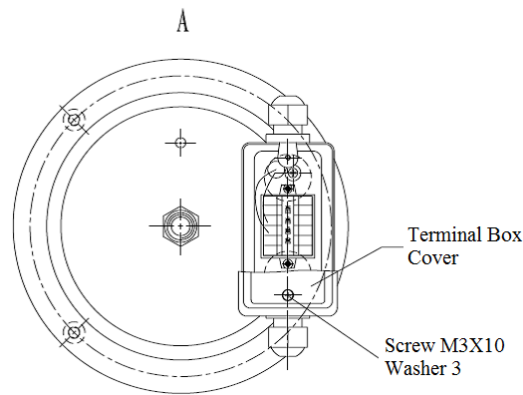

Figure 19
1. Remove the two (2) Screws M3X10 and then remove the terminal box cover. See Figure 19 on page 25.
3. Remove the two (2) Screws M4X10 and then remove the Brake switch with plate.
4. Remove the two (2) bolts M4X30, Nuts M4, washers-4 and lock washers-4 and then remove the brake switch.